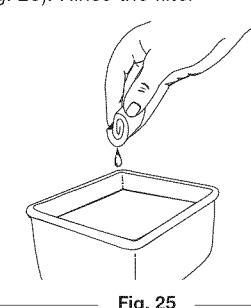

Fig. 25
3. Wash the filter in detergent and water (Fig. 25). Rinse the filter thoroughly and allow it to dry.
7. Reinstall the air filter cover. Position the slots on the top of the air filter cover onto the tabs at the top of the back plate (Figs. 25 & 29).